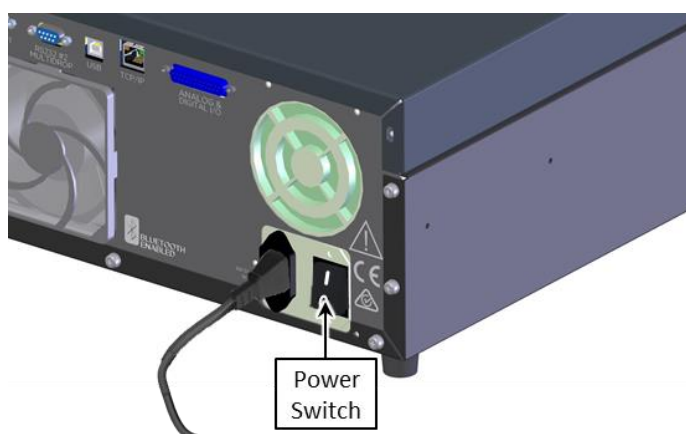

Figure 29 – Turn ON Power Switch
- Refer to Figure 29. Turn ON the power switch.